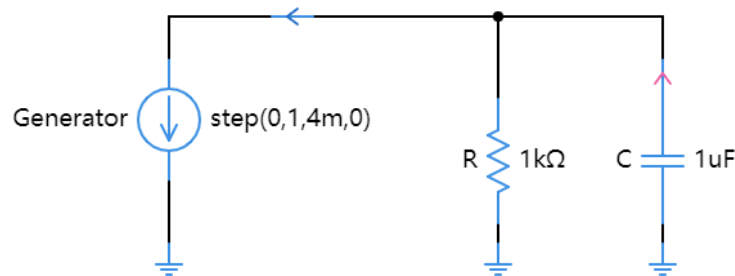

Fig.6 Circuit configuration for the first-order RC simulation with current source
6. Change the DC voltage generator to the DC **current generator** as shown in Fig. 6. In this case, two “Current Probes” are connected in the circuit to measure the currents. Do the steps as similar to Steps 1-5 above and fill in Table II with the calculated and simulated data.